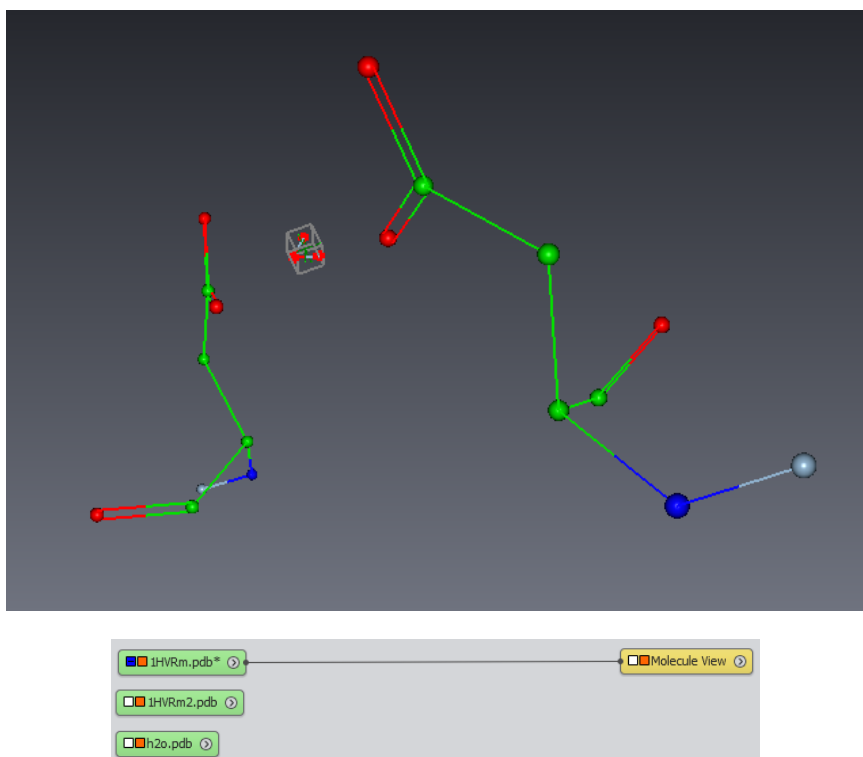

Figure 19.6: Moving the water molecule to the desired location
- Left-click on the dragger and hold the mouse button down. You can now translate the dragger in different planes depending on the side you clicked on. Move the water molecule between the two amino acids as shown in Figure 19.6.